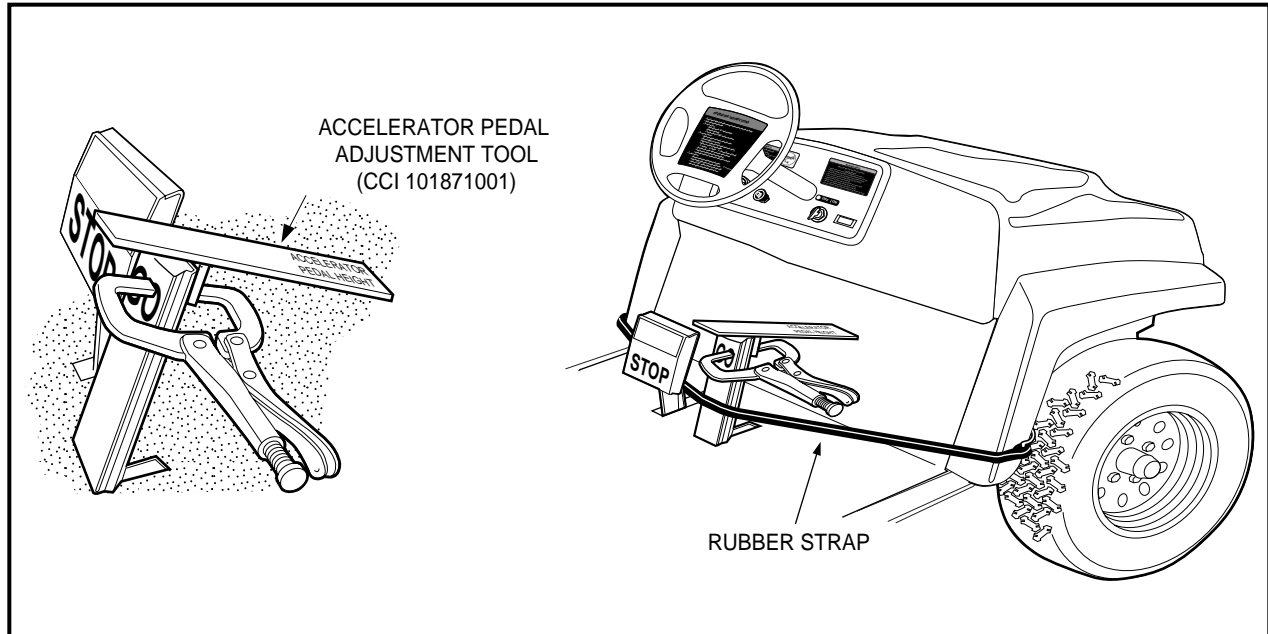

Figure 5-7 Accelerator Pedal Height Adjustment
- 3.2. Depress the accelerator pedal until the end of the tool rests against the floorboard. Using a rubber strap, hold pedal in position against the floorboard and tighten nut to 26 ft-lb (35.3 N·m) (**Figure 5-7, Page 5-5**).
- 4.1. Place the end of the tape measure against the floormat and adjust the pedal so the distance from the floormat to the back of the accelerator pedal is 5-3/4 inches \pm 1/4 inch (14.6 cm \pm 6mm) (**Figure 5-7, Page 5-5**).